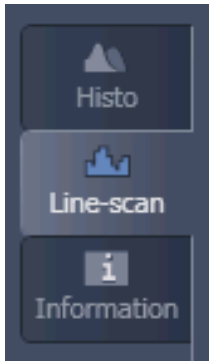

Fig. 308 Selection of Line Scan diagram
- Press **Continuous** to start a continuous scan. Press the **Line Scan** tab (Fig. 308).